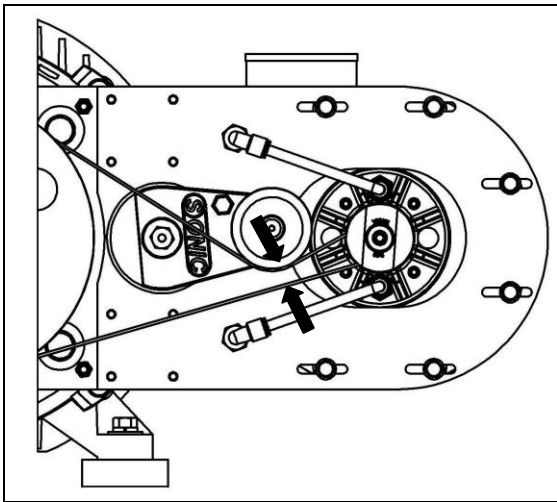

Figure 25 - Set Belt Gap to $\frac{3}{4}$ inch
6. Verify that the belt gap is approximately ¾ inch ±1/16 inch (Factory Set). (See Figure 25)